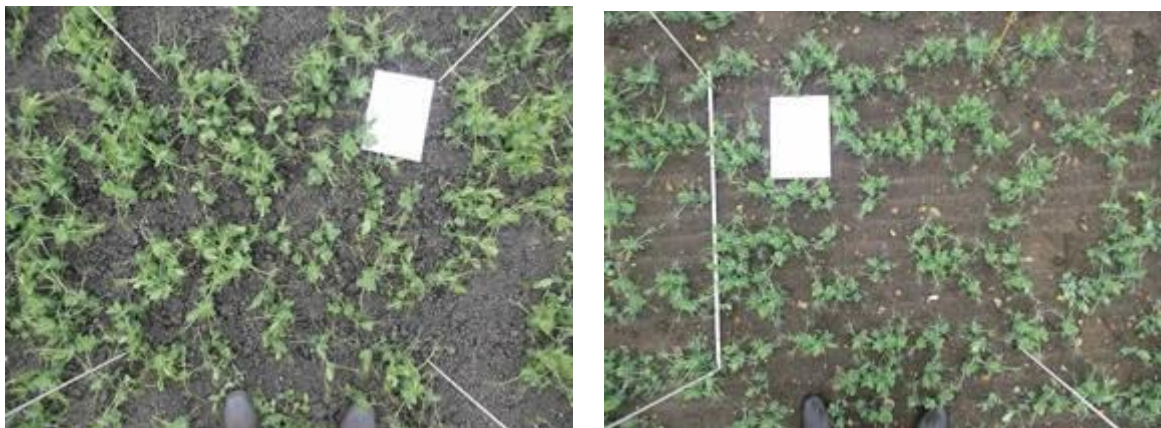

Figure 1. Example photographs for plant population estimate
- Alternatively**, plant counts can be calculated from photographs. Take images at three locations from within the 2ha area entered in the YEN. Take the photo from above the crop looking vertically down, showing as wide an area as possible and including an A4 piece of paper flat on the ground for scale. See examples in Figure 1. Photos will be able to be uploaded using the online data submission portal.